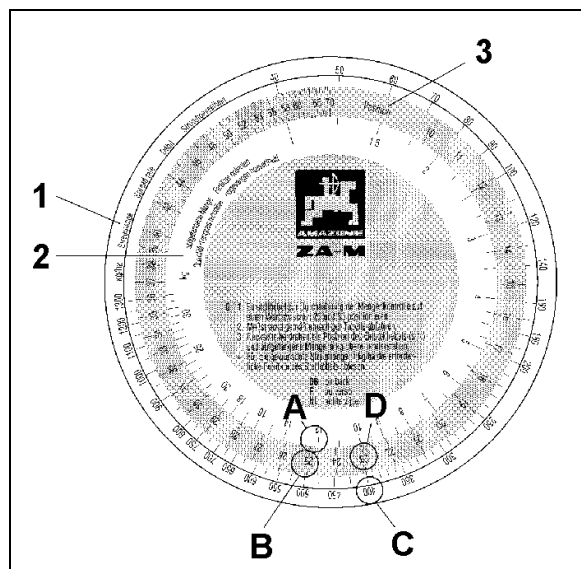

Fig. 47
- The outer white scale with the spread rates [kg/ha] (spread rate) (Fig. 47/1).
- The inner white scale for the amount of fertilizer [kg] collected during the calibration test (collected amount) (Fig. 47/2).
- The center coloured scale with the shutter slide positions (Position) (Fig. 47/3).
6. Take the calculating disc rule. On scale (Fig. 47/2) for collected quantity [kg] look for figure **12,5** (Fig. 47/A) and align with the chosen shutter slide position (Position) **25** (Fig. 47/B) on the coloured scale (Fig. 47/3).
7. Look for desired spread rate **400 kg/ha** (Fig. 47/C) and read off the required shutter slide position (Position) **23** (Fig. 47/D).